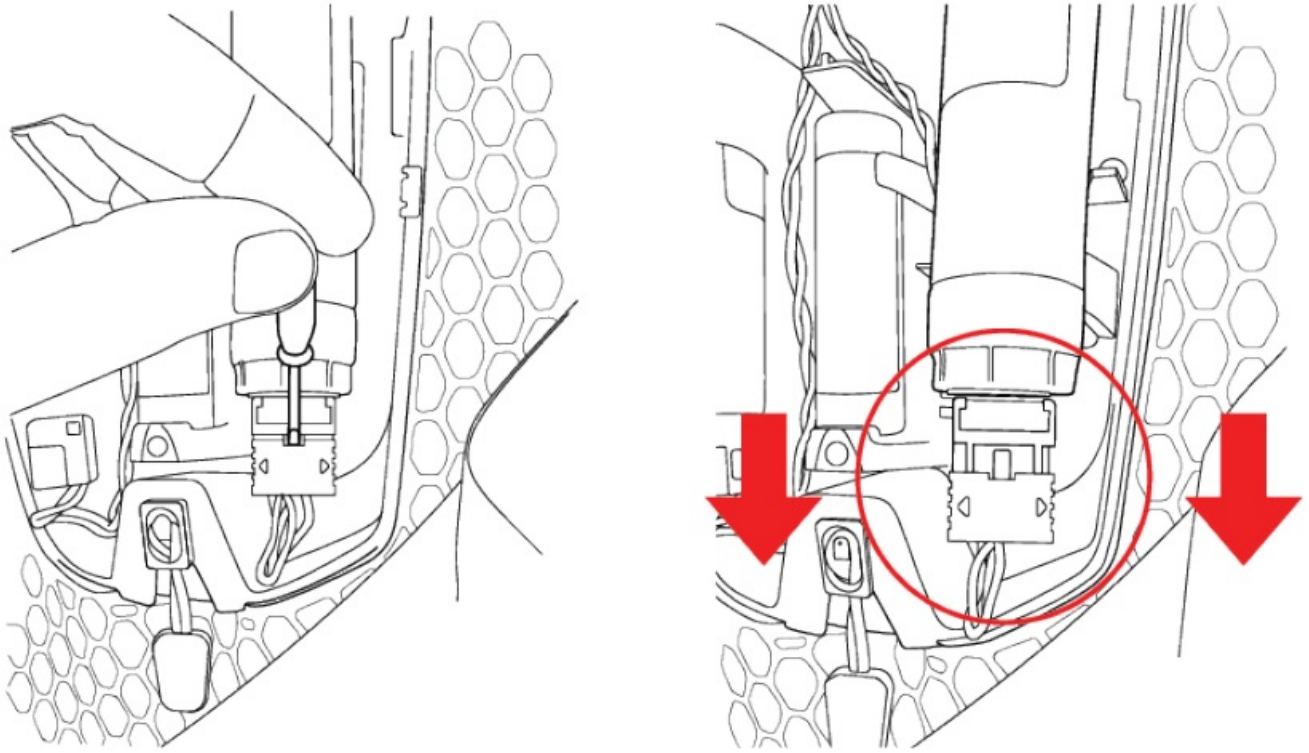

Figure 7: How to detach the Squib Connector (6) from the Gas Inflator (1)
To proceed with the replacement, remove the empty Gas Inflator (1) from its housing inside the Gas Inflator Housing (5). To understand how to correctly identify the empty Gas Inflator (1), see Section 4.1 "Empty Gas Inflator Check". Proceed by opening the Squib Connector (6), using the Screwdriver (7) supplied with the System, as shown in Figure 7. Once opened, the Squib Connector (6) can be completely detached from the Gas Inflator (1).